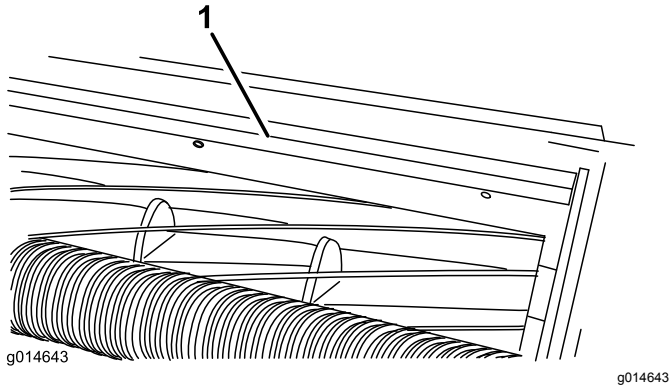

Figure 23
1. Loosen the screws securing the top bar (Figure 23) to the cutting unit.